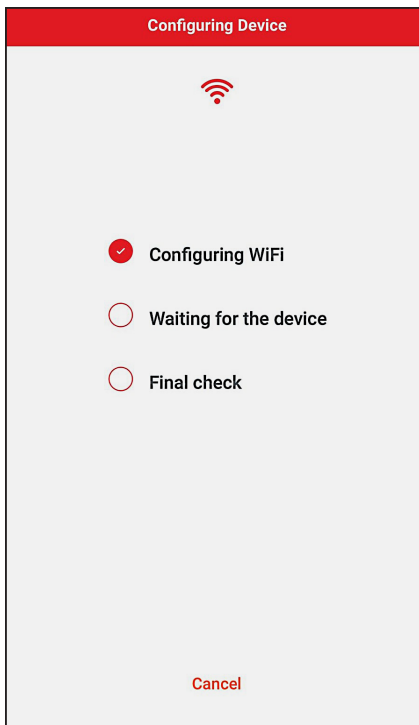

Figure 93. Configuring Device
6. The Raymote mobile app will provide the Wi-Fi network credentials to your unit. See **Figure 93**.